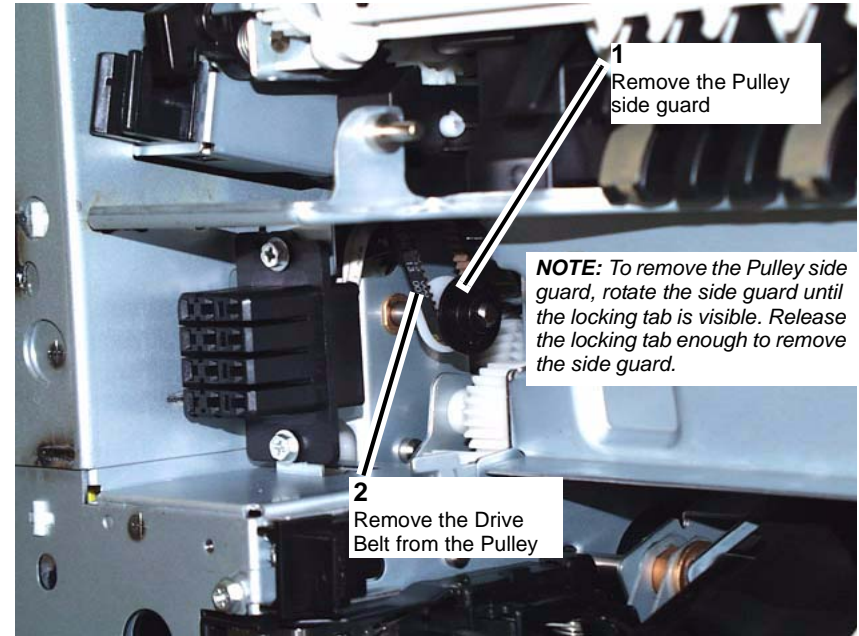

Figure 6 Disengaging the Drive Belt
9. Remove the Drive Belt from the Pulley. (Figure 6)